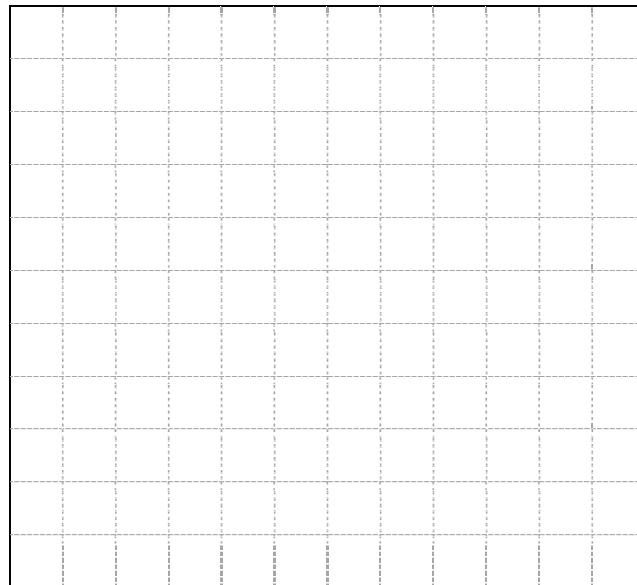

Figure 1-15. With and without torque boost characteristics.
31. Plot the curves with and without torque boost in Figure 1-15. Place the Frequency values along the X-axis, and the Output voltage values along the Y-axis.